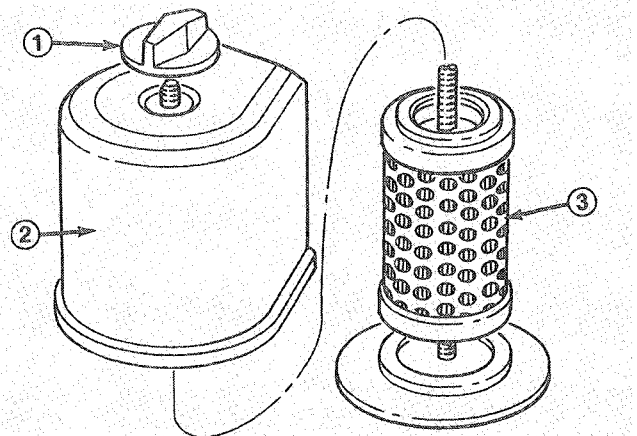

Figure 20
2. Unscrew knob, lift off cover, and remove paper cartridge (Fig. 20).